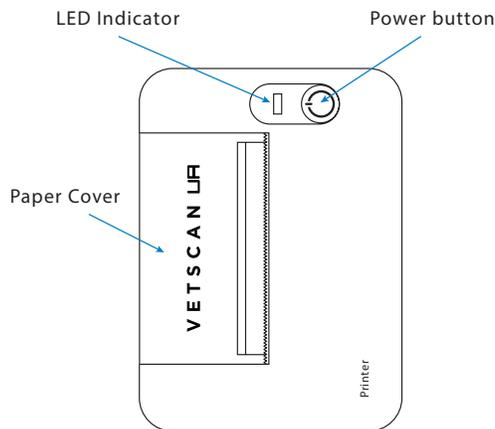

Fig. 3 UA Printer
- UA Printer (Fig. 3)
- Check Strips (2) – Strips for dry-use only verification of the instrument function (in plastic tube)